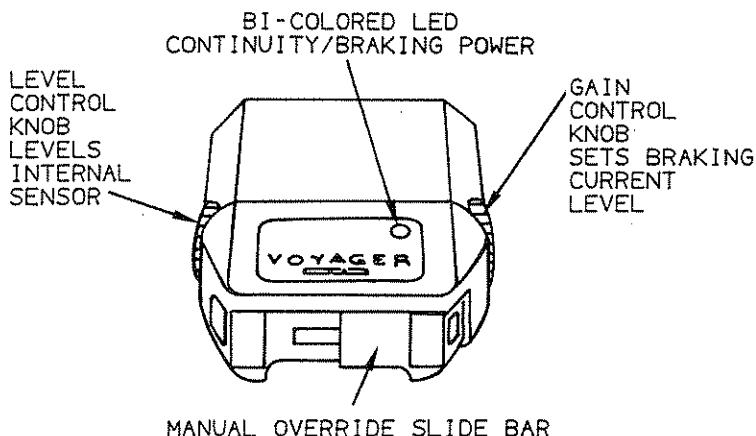

Figure 1. Brake Controller Controls
- b. Set the gain control knob (see figure 1) to maximum by rotating the knob clockwise.
- d. With the gain control knob set to maximum, rotate the sensor leveling knob (see figure 1) counterclockwise until the LED just starts to change colors from GREEN to RED.
- a. Rotate the gain control knob (see figure 1) such that the notch is at the "12 o'clock" position.
- c. Slowly move the manual override slide bar (see figure 1) towards the maximum position.